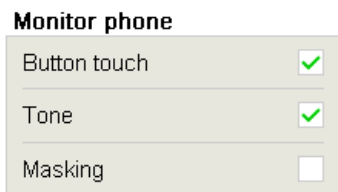

Figure 150
**Monitor phone:** Allows audible presentation through the Monitor phone of the device (Figure 150). These signals include: